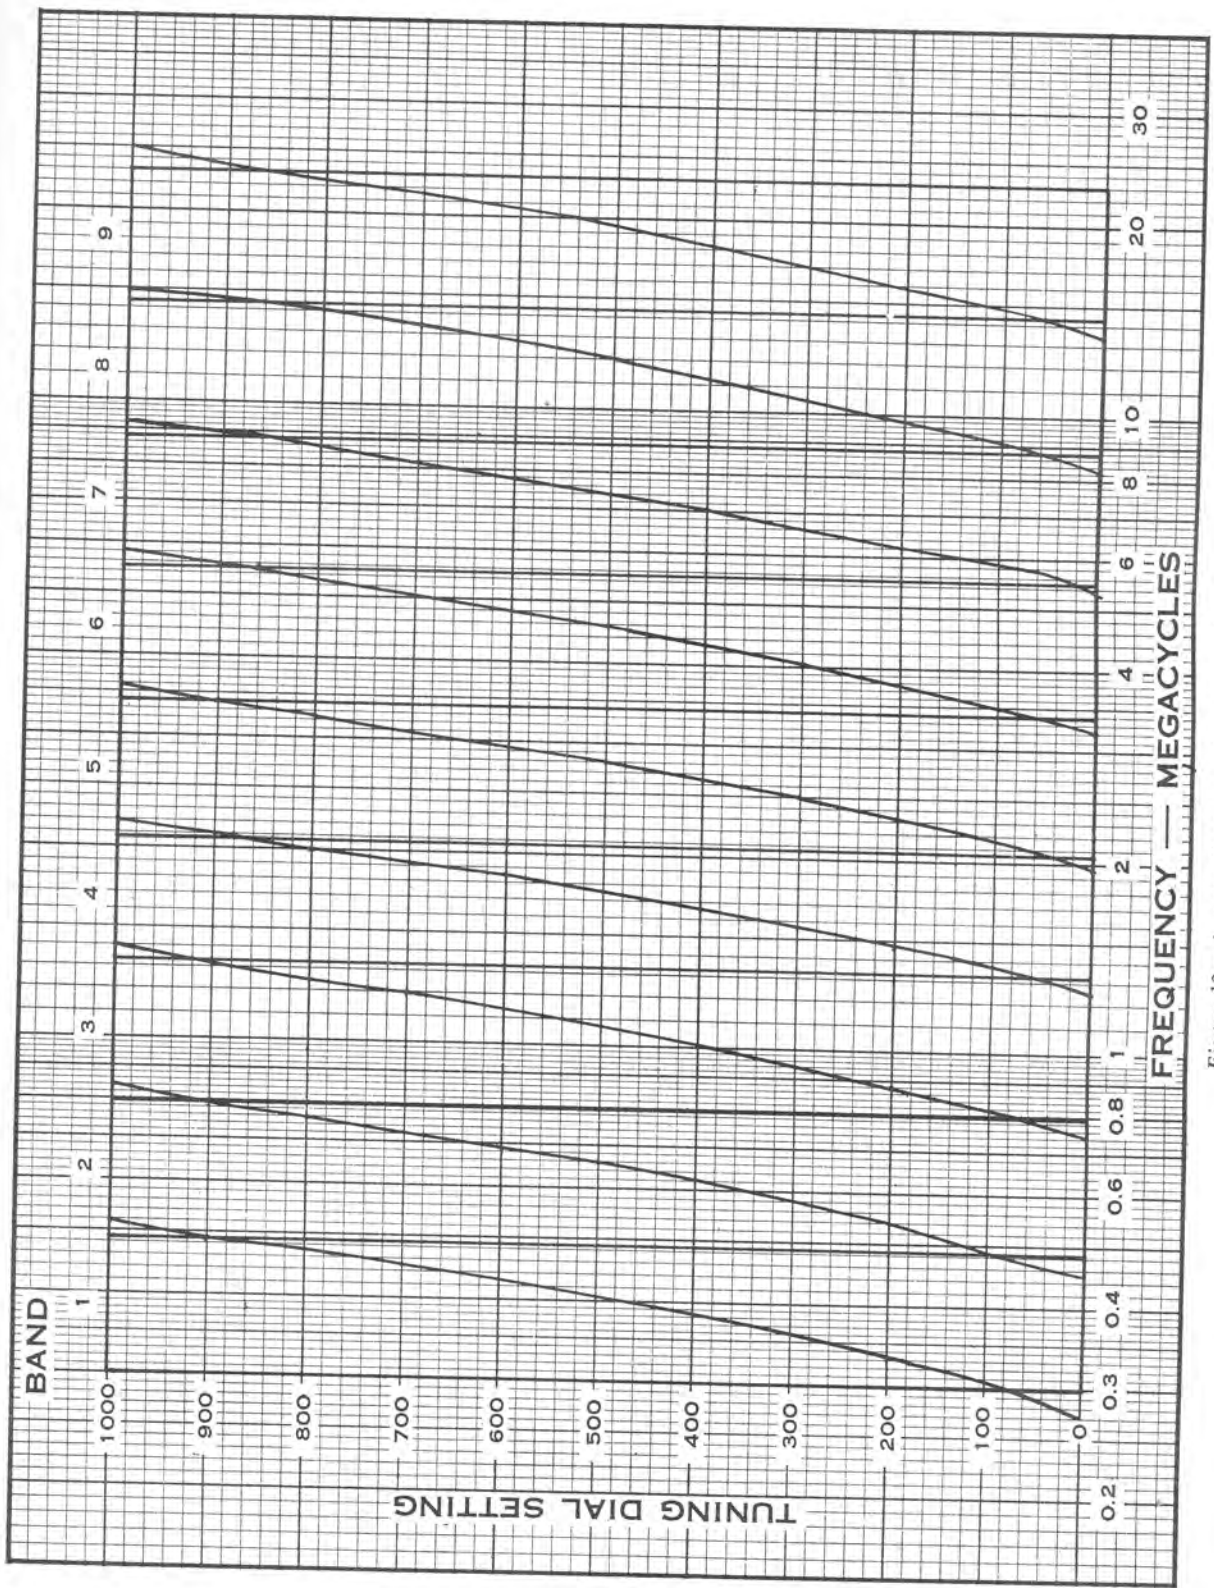

Figure 13—Average Frequency Calibration Curves
11.4-1 Figure 13 shows average frequency calibration curves and band coverage of this equipment. Table No. 2 gives the nominal frequency range of each band.